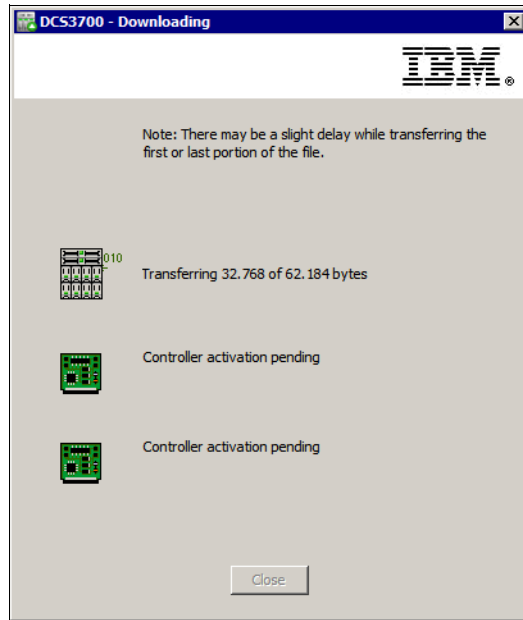

Figure 14-42 Download progress of NVSRAM
- The Downloading window opens and shows you the status of the transfer and the activation on the controllers, as shown in Figure 14-42.